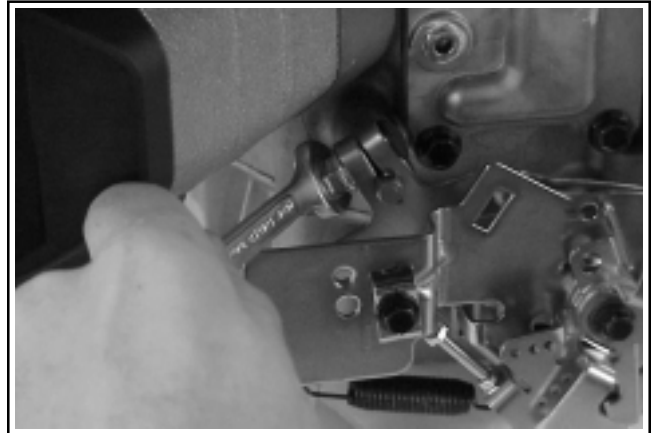

Figure 9-17. Loosening Governor Lever Clamp Nut.
2. Loosen the hex. flange nut on the clamp screw securing the governor lever to the cross shaft. See Figure 9-17.